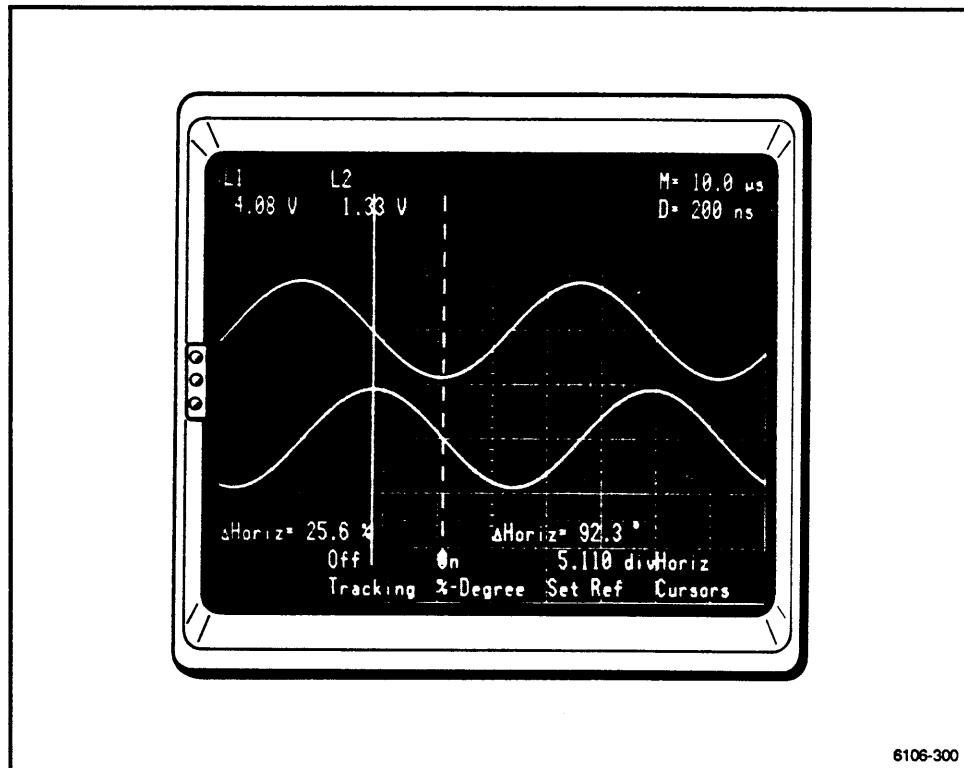

Figure 2-101 Phase angle result.
7. Position the right cursor to the first zero transition of the lagging trace that follows the position of the left cursor. (See Fig. 2-101.)